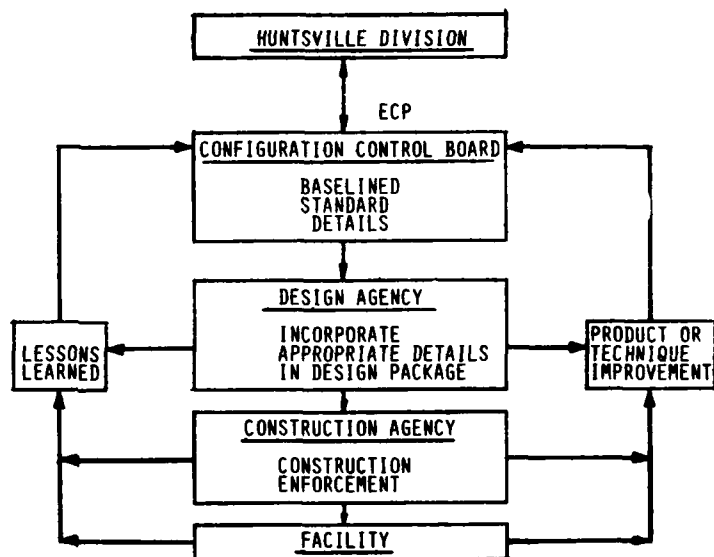

FIGURE 1
1. TO AVOID TECHNICAL OBSOLESCENCE IN TECHNOLOGIES, ARCHITECTURAL/ENGINEERING DETAIL CHANGES AS A RESULT OF EXPERIENCE GAINED THROUGH THE USE OF CERTAIN STANDARD DETAIL PROPOSED CHANGES AND ADDITION OF NEW DETAIL BASELINED STANDARD DETAILS ARE BE DISCOURAGED. ALL PROPOSED CHANGES, REGARDLESS OF THEIR NATURE AND PURPOSE OF CHANGE, SHALL BE APPROVED THROUGH AS ECPs FOR NECESSARY CONCERNED AGENCIES AND FOR APPROVAL BY THE HUNTSVILLE DIVISION. THE DIVISION WILL SERVE AS THE COORDINATING ALL ACTIVITIES ASSOCIATED WITH THE ARCHITECTURAL STANDARD DETAIL CHART INDICATED IN FIGURE 1 W.
1. TO AVOID TECHNICAL OBSOLESCENCE AS A RESULT OF ADVANCES IN TECHNOLOGIES, ARCHITECTURAL/ENGINEERING PRACTICES, OR AS A RESULT OF EXPERIENCE GAINED FROM THE ACTUAL PERFORMANCE OF CERTAIN STANDARD DETAILS INSTALLED AT AAPs, PROPOSED CHANGES AND ADDITIONS TO OR DELETIONS FROM BASELINED STANDARD DETAILS ARE INEVITABLE AND SHOULD NOT BE DISCOURAGED. ALL PROPOSED CHANGES, ADDITIONS OR DELETIONS, REGARDLESS OF THEIR ORIGINATING AGENCIES OR OF THE NATURE AND PURPOSE OF CHANGE, MUST BE PROCESSED THROUGH AS ECPs FOR NECESSARY REVIEW BY VARIOUS CONCERNED AGENCIES AND FOR APPROVAL BY THE CCB. THE CE (HUNTSVILLE DIVISION) WILL SERVE AS THE FOCAL POINT FOR COORDINATING ALL ACTIVITIES ASSOCIATED WITH THE MODIFICATION OF THE ARCHITECTURAL STANDARD DETAILS. THE FLOW CHART INDICATED IN FIGURE 1 WILL SERVE THIS PURPOSE.